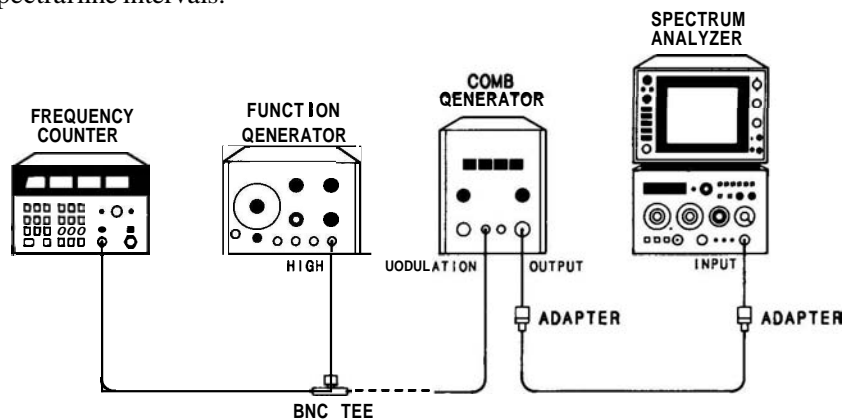

FIGURE 4-1. FREQUENCY SPAN ACCURACY TEST SETUP
2. Connect equipment as shown in Figure 4-1 but do not connect function generator to comb generator.